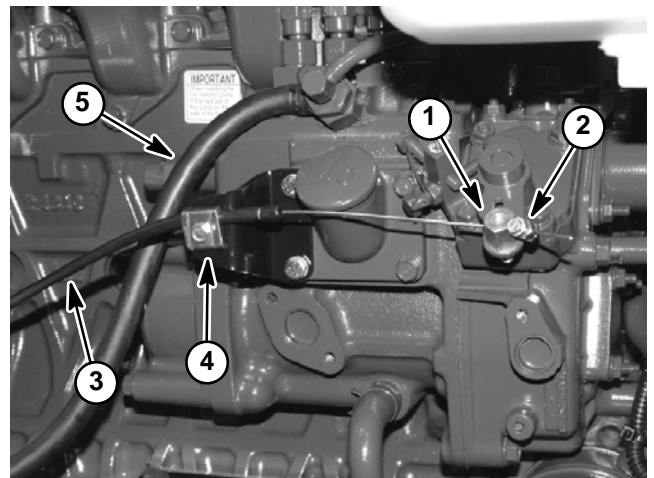
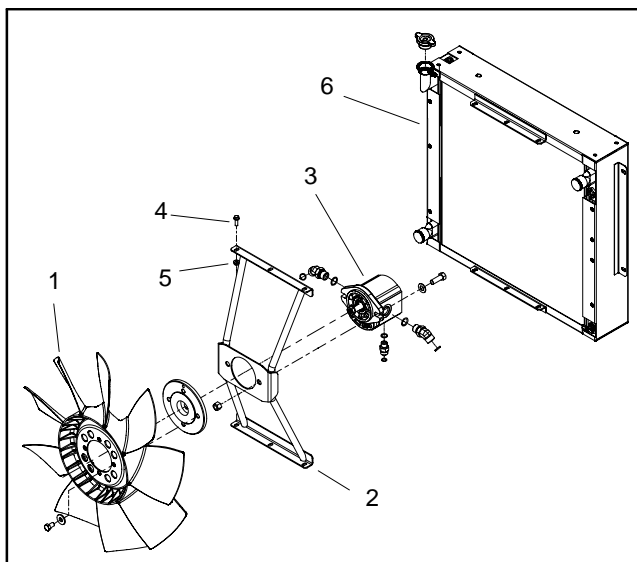
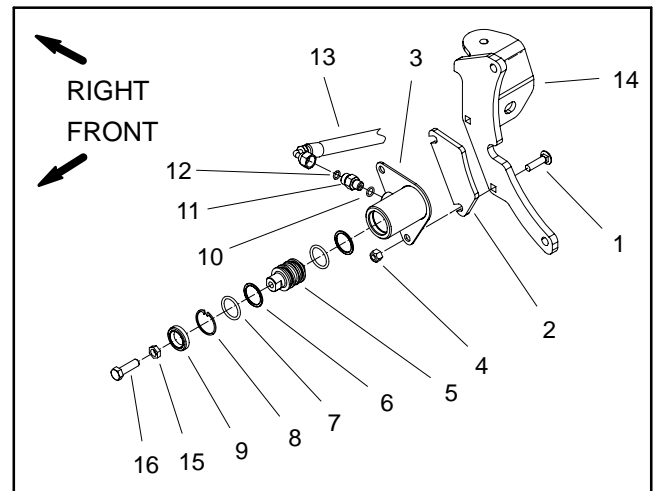

Figure 13
Figure 15
Figure 16
8. Disconnect fuel supply hose from injection pump (Fig. 13).
9. Remove throttle cable from engine (Figs. 13 and 14):
11. Remove cooling fan motor and fan assembly (Fig. 15).
C. Remove six (6) cap screws and flange nuts that secure fan motor bracket to radiator.
12. Remove transport cylinder assembly from engine mount (Fig. 16). It is not necessary to remove the hydraulic hose from the cylinder. Locate and remove cylinder spacer from between transport cylinder and engine mount.
7. Install fan motor and fan assembly (Fig. 15).
- B. Secure fan motor bracket to radiator with six (6) cap screws and flange nuts.
9. Connect throttle cable to injector pump (Figs. 13 and 14):
10. Connect fuel line to the injection pump (Fig. 13).
11. Install transport cylinder assembly to engine adapter plate (Fig. 16). Make sure that cylinder spacer is positioned between transport cylinder and engine mount.